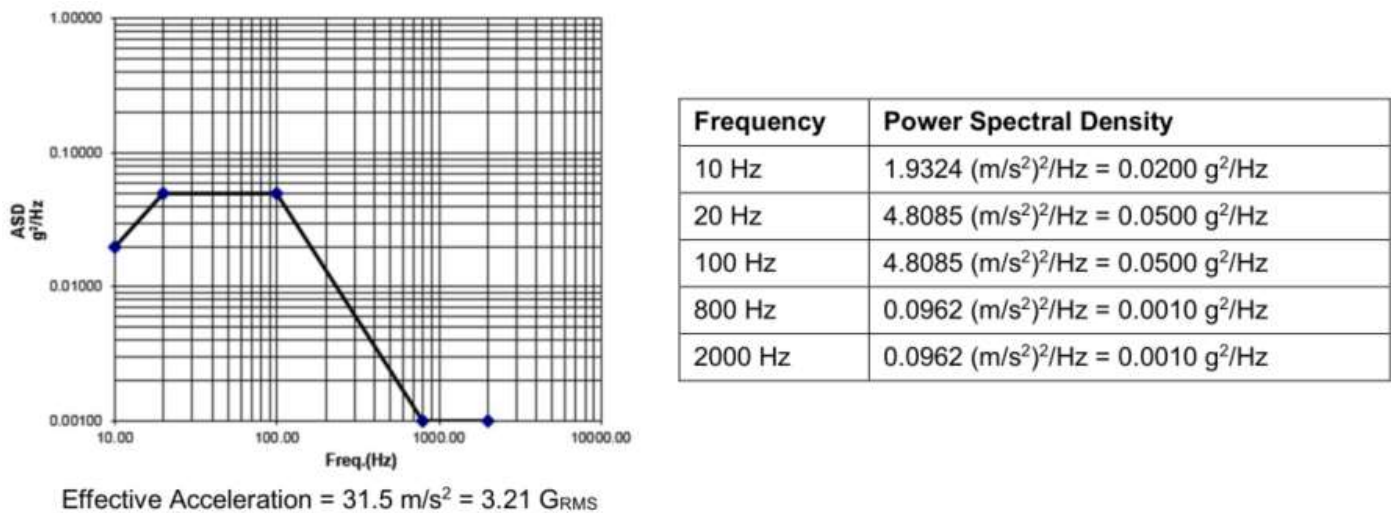

Fig. 3
5.3 Random Vibration Profile for Underhood Sprung Masses (see Fig. 3)